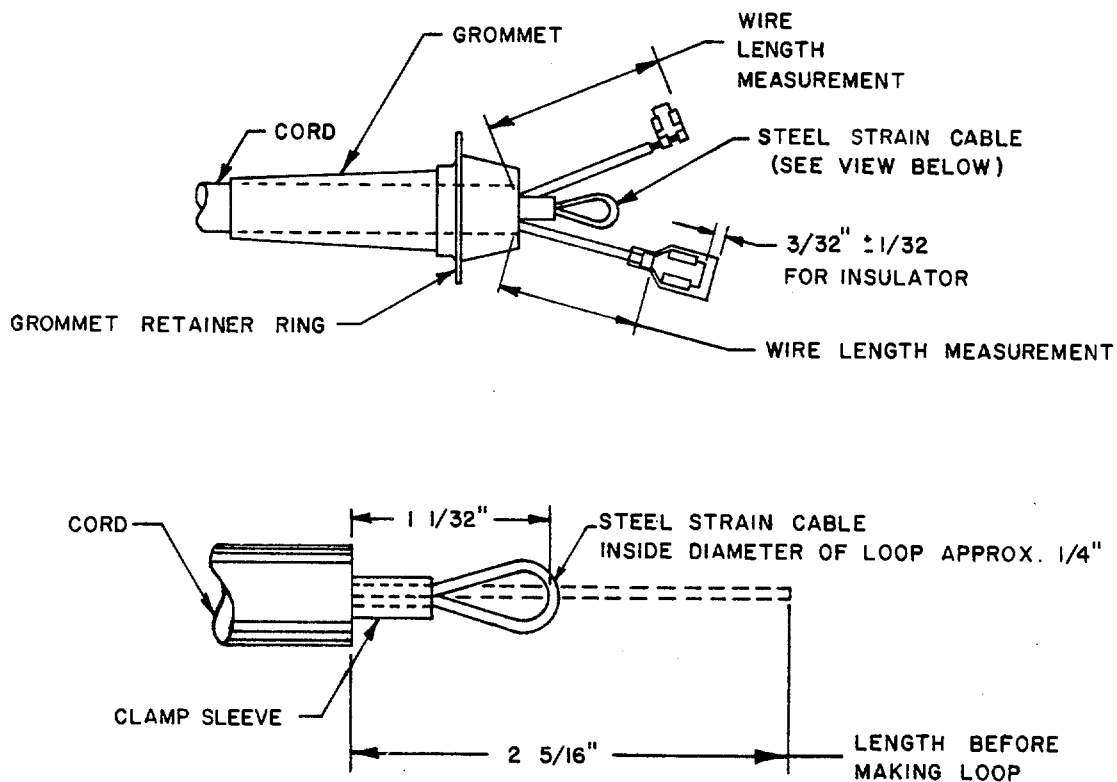

FIGURE 5.
4. Now, using the cut off piece of cord as a guide, strip outer insulation jacket and shorten individual wires (except Green wire) to the lengths previously used, refer to Figure 5. Strip insulation from each wire for distance required for appropriate terminal.